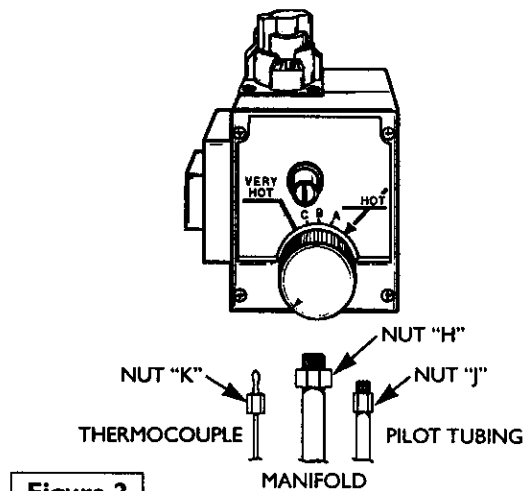
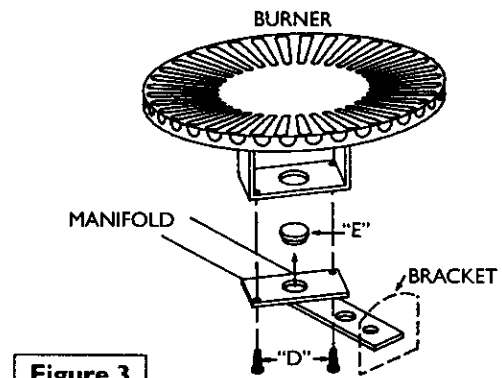

Figure 2
Figure 3
- Step 3. Remove burner assembly from water heater and control by loosening $\frac{3}{4}$ " nut "H" holding burner assembly to control. (See Figure 2, page 17). Loosen pilot tube nut "J" and thermocouple nut "K" at control.
- Step 4. Remove screws "D" disengaging manifold from burner. (See Figure 3, page 17)
- Step 5. Remove orifice "E" (See Figure 3, page 17) using $\frac{3}{8}$ " wrench. Install orifice marked "L.P." found in the bag into manifold. Tighten securely. Secure burner to manifold with screws "D".
- Step 7. Make sure all connections are tightened securely, and reinstall burner assembly into water heater. Position end of the manifold inside bracket as shown in Figure 3 on page 17. Reinstall manifold into control and tighten $\frac{3}{4}$ " nut ("H") securely. Recheck to see that end of manifold is still inside bracket as shown in Figure 3 on page 17. Reinstall pilot tubing and thermocouple into control. (See Figure 2, page 17)
- Step 14. Push in control knob all the way and hold down. Immediately light the pilot with a match. Continue to hold control knob in for about one (1) minute after the pilot is lit. Release knob and it will pop back up. Pilot should remain lit. If it goes out, repeat steps 9 through 12.
- Step 15. Check for gas leaks with only pilot flame burning using a soapy water solution, not a match or open flame. Check for gas leaks at fittings "F" and "G" (See Figure 4, page 17) and at fitting "J" (See Figure 2, page 17).
- Step 19. With a soapy water solution, not a match or open flame, check for gas leaks at gas connection "H". (See Figure 2, page 17). If gas leak occurs, turn off immediately by shutting off gas cock at inlet to control, or by turning gas control knob (↷) to "PILOT" pushing down and turning to "OFF". Repair gas leak as necessary, and repeat steps 9 through 19.